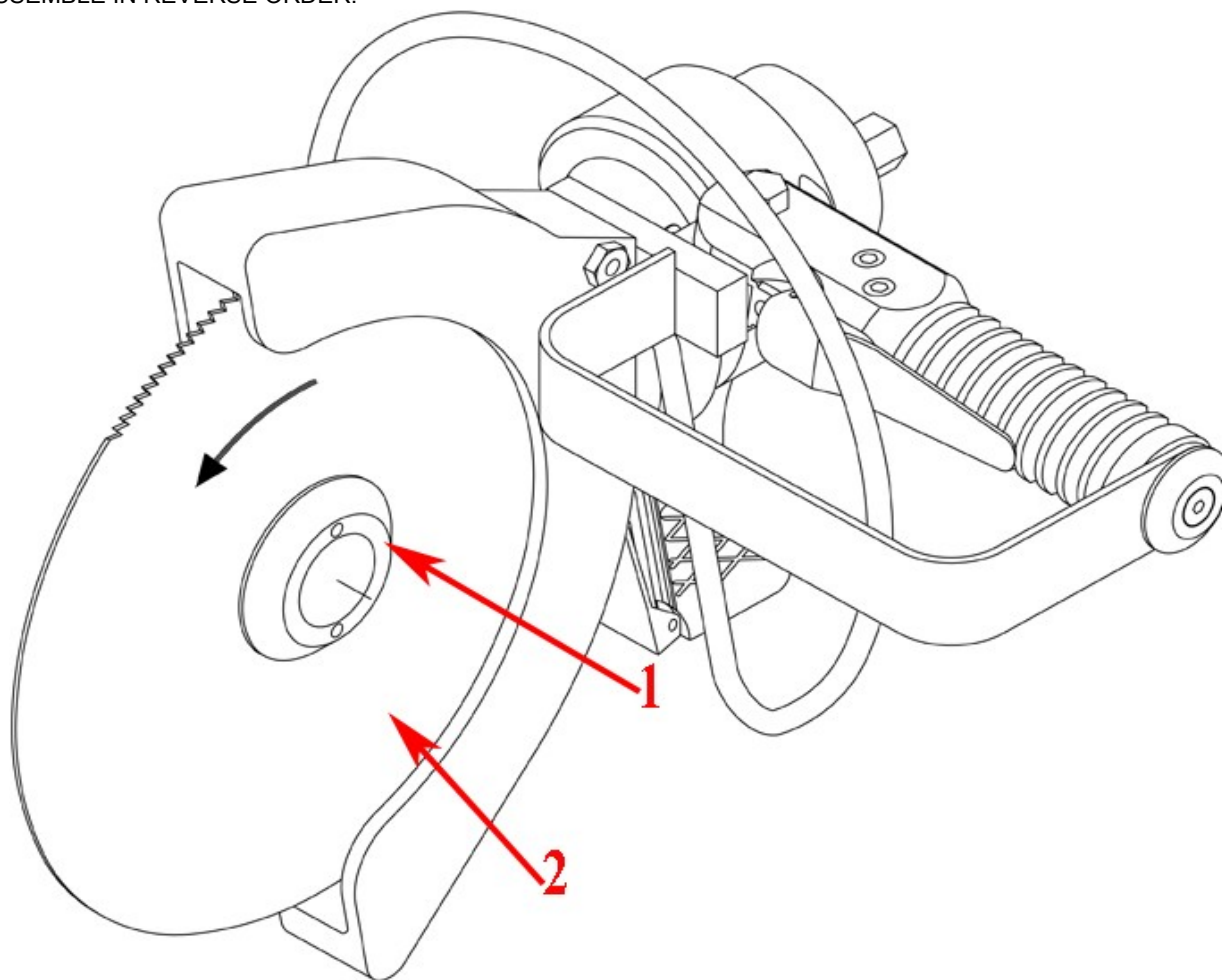

Figure 1 MODEL HKM-III – BLADE REPLACEMENT
1. REMOVE SAW BLADE. (SEE FIGURE 1 – BLADE REPLACEMENT)